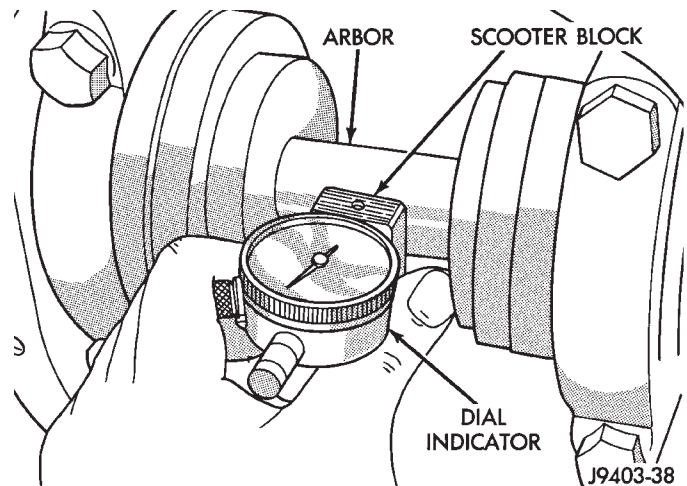

Fig. 62 Pinion Gear Depth Measurement—Typical
(5) Assemble Dial Indicator C-3339 into Scooter Block D-115-2 and secure set screw.
(6) Place Scooter Block/Dial Indicator in position in axle housing so dial probe and scooter block are flush against the rearward surface of the pinion height block. Hold scooter block in place and zero the dial indicator face to the pointer. Tighten dial indicator face lock screw.
(7) With scooter block still in position against the pinion height block, slowly slide the dial indicator over the edge of the pinion height block. Observe how many revolutions counterclockwise the dial pointer travels (approximately 0.125 in.) to the out-stop of the dial indicator.
(8) Slide the dial indicator probe across the gap between the pinion height block and the arbor bar with the scooter block against the pinion height block (Fig. 62). When the dial probe contacts the arbor bar, the dial pointer will turn clockwise. Bring dial pointer back to zero against the arbor bar, do not turn dial face. Continue moving the dial probe to the crest of the arbor bar and record the highest reading. If the dial indicator can not achieve the zero reading, the rear bearing cup or the pinion depth gauge set is not installed correctly.